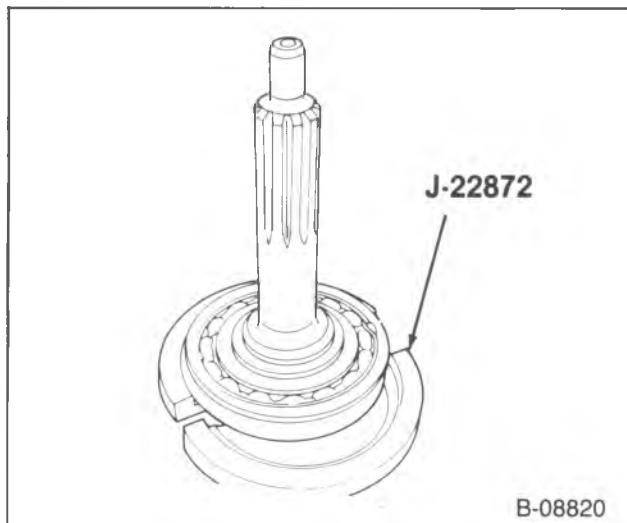

Figure 28—Installing Tool J-22872
1. Pilot bearings (239).
2. Bearing retainer (276).
3. Snap ring (241).
4. Bearing (278), using J-358-1 and J-22872, (figures 28 and 29)
5. Slinger (240).
2. Bearing (277), using J-358-1 and J-22872, (figures 28 and 29).
3. New bearing to shaft (small) snap ring (241).
4. New bearing to case (large) snap ring (203).
5. Pilot bearings (239).